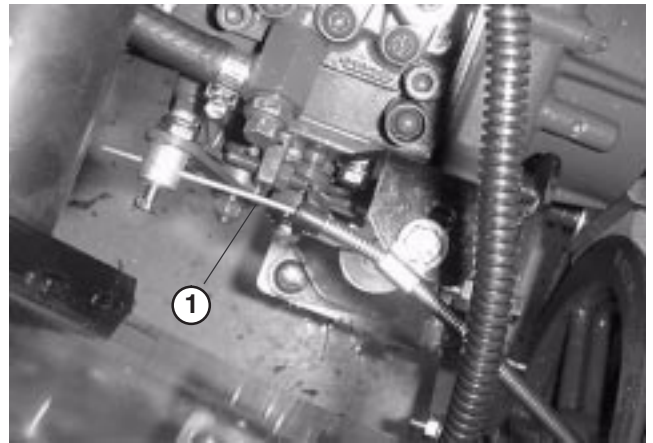

Figure 47
1. Adjust throttle cable (Fig. 47) so governor lever on engine contacts low and high speed set bolts before throttle lever contacts slot in control panel.